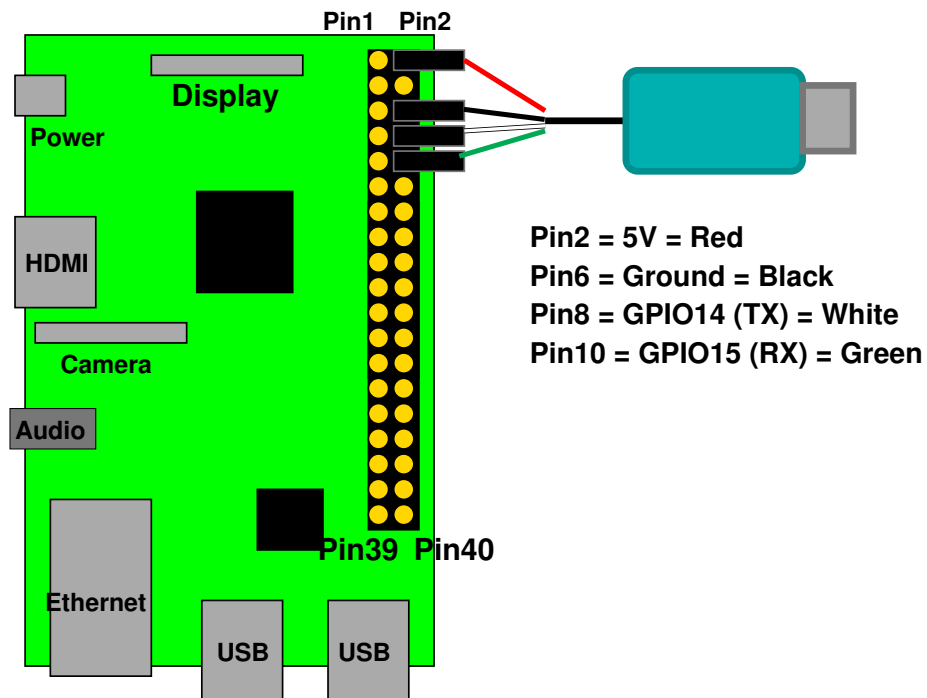

Figure 1: Raspberry Pi Serial Connection
- Connect the serial to USB converter to your Pi as shown in Figure 1.